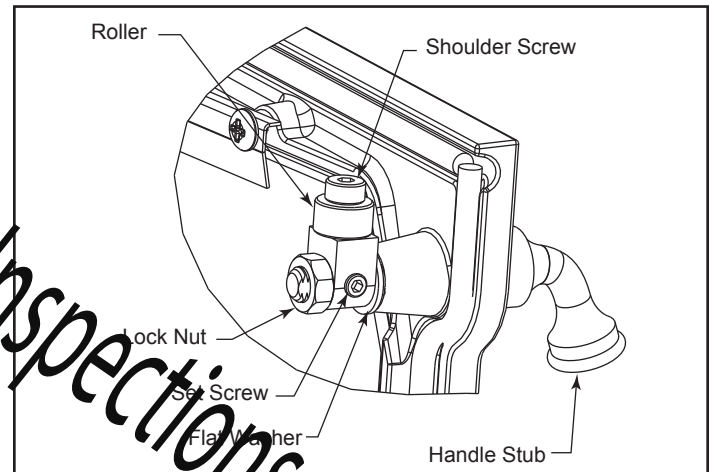

Figure 13 - Rotate pawl and/or remove flat washer to adjust latch.
1. Remove and retain the lock nut with a $\frac{9}{16}$ " wrench. (Figure 13)